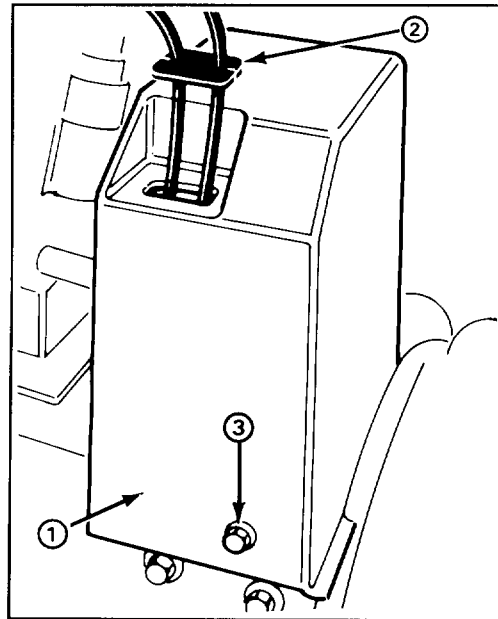

Figure 23
1. Remove (3) flange head capscrews securing belt cover to engine frame and slide belt cover up cables (Fig. 23).
4. Remove (2) flange head cap screws securing idler pulley assembly to engine frame. Remove idler pulley assembly.
8. On control cable which corresponds to belt being replaced, loosen jam nuts securing cable to bracket (Fig. 23).